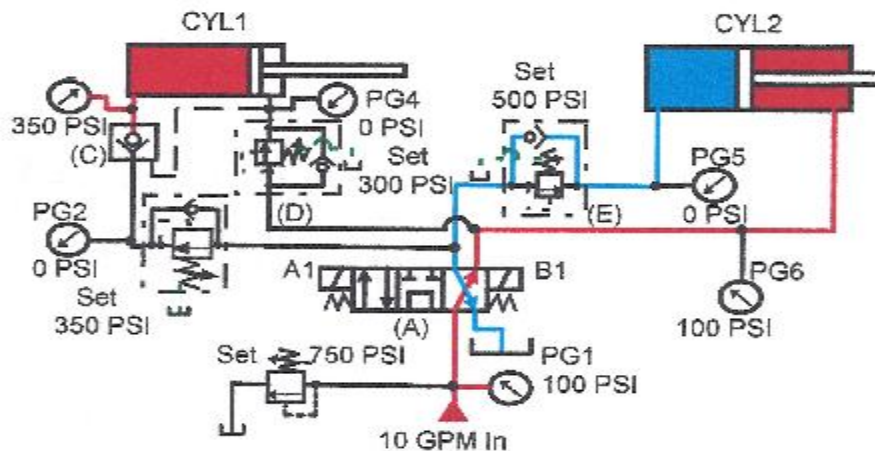

Figure 20-9. Two-cylinder sequence circuit.
Energizing solenoid B1 on directional valve (A), Figure 20-9, starts returning the cylinders to their at-rest positions. In this circuit, CYL2 retracts first, while CYL1 holds under pressure when the directional valve shifts. Pilot-operated check valve (C) traps oil in the cap end of CYL1 — note gauge PG3 — so it does not relax and release the part. Oil now goes to CYL2 and sequence valve (D). CYL2 retracts first because it only takes 100 psi to move it, while the pressure setting at sequence valve (D) is 300 psi. Pressure at CYL2 changes as it retracts, but never goes higher than 200 to 250 psi.